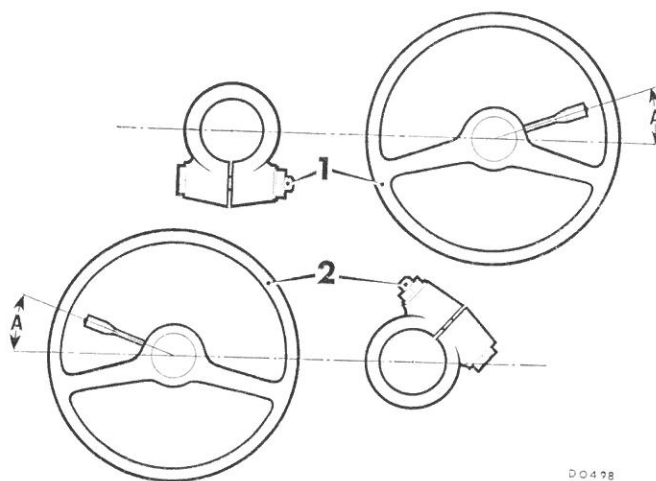

Fig. J.2
- (24) *1968 models.* Refit the column onto the pinion with the clamp bolt positioned as shown in Fig. J.2, and tighten to the torque figure given in 'GENERAL DATA'.
- (25) Lift the column and insert the clip into the support bracket, moving the bracket to meet the clip and **not** vice versa, so that the column remains free of load. Tighten the bracket to fascia rail securing bolts.
- (26) Refit and adjust the indicator trip stud until the combined measurement of the column and the stud is between 1.176 and 1.195 in. (29.87 and 30.35 mm.). Ensure that the longitudinal head of the stud is parallel to the column and tighten the
- (27) Ensure that the outer column and direction indicator lever is positioned as shown in Fig. J.2, i.e. with the indicator trip stud exactly between the two cancelling mechanisms of the switch.
- (28) Tighten each of the rack 'U' bolts nuts as a pair, turning each nut alternately a half-turn at a time until secure.
- (29) *1968 models.* Remove the locator pin and refit the plastic plug.
- (30) The remainder is a reversal of the removing procedure.